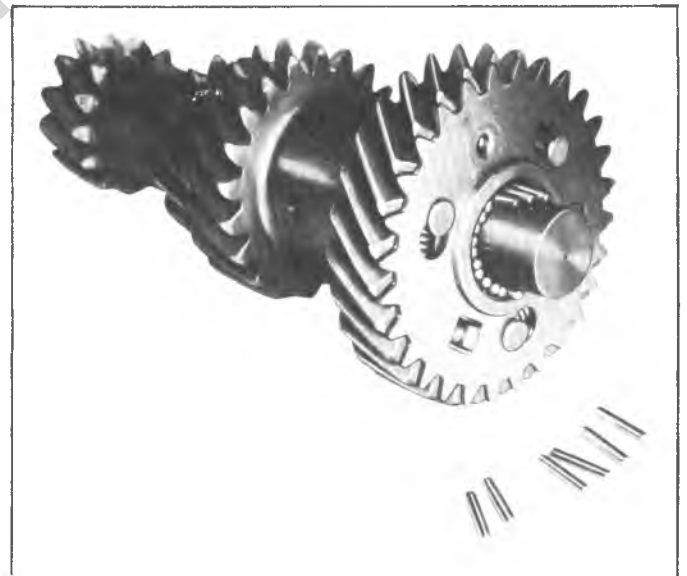

Fig. 6A--Loading Countergear Bearings w/Tool J-22246
Inspect the plate teeth for wear or other damage. The plate and two damper springs are retained to the countergear by three rivets. Disassembly is not recommended (fig. 6A).
1. Using Tool J-22246 load a row of roller bearings (27) and a bearing thrust washer at each end of the countergear. Use heavy grease to hold them in place (fig. 6A).